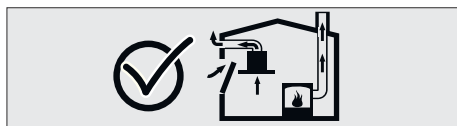

Fig. 2
- Therefore, adequate fresh air ingress must always be ensured. Fig. 2